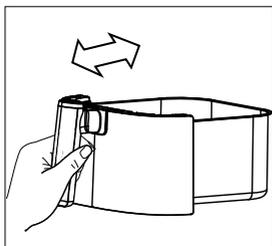
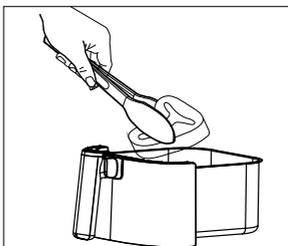

Fig. 4
Fig. 5
- ▶ To achieve optimal cooking results, shake the fryer pan (8) (Fig. 4) or turn the food (Fig. 5) during the cooking time, especially when food is overlapping.